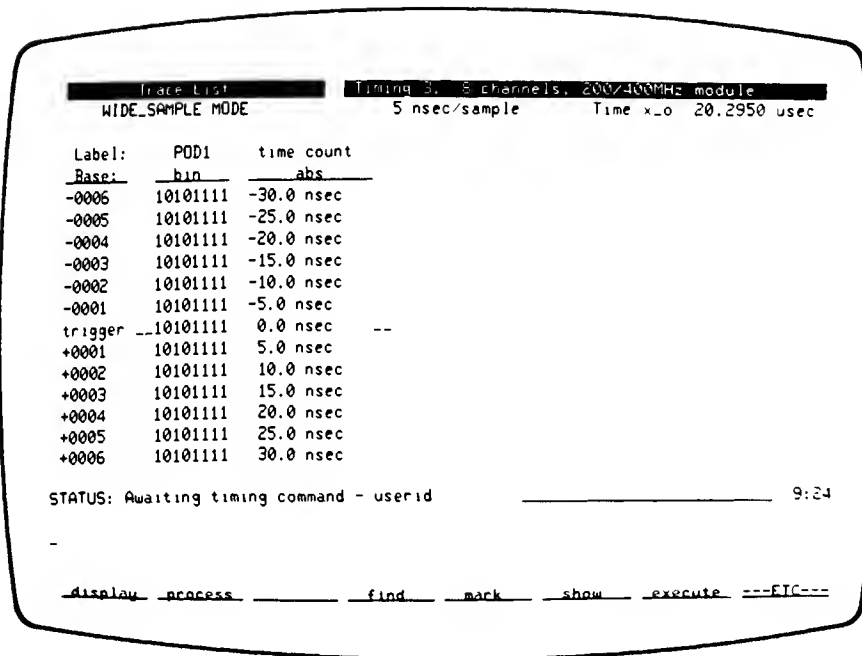

Figure 3-4. Trace List Specification Default Display
11. Press the *show* and *tracelist* softkeys, then the RETURN key. The default trace list (see figure 3-4) will appear on the screen with POD1 values listed in binary. The time count column shows absolute time between each captured sample and the trigger (on line 0000). The time between mark_x and mark_o is shown at the top, right portion of the screen.